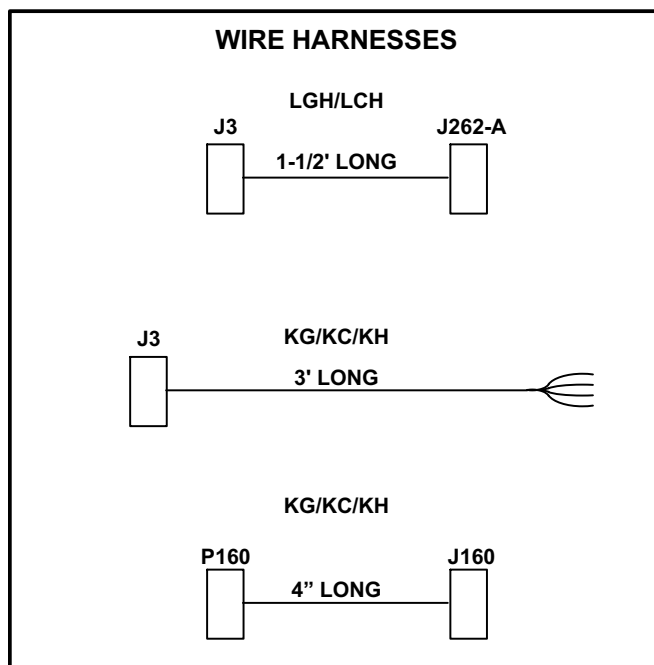
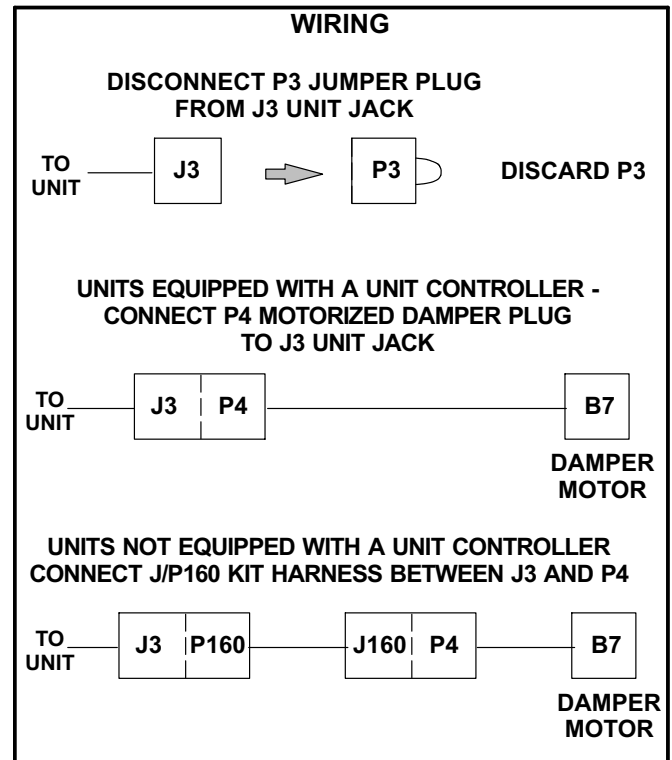

FIGURE 1
FIGURE 6
- 4- Locate the appropriate kit harness. See figure 1.
Locate shortest harness. See figure 1. Connect the kit jumper harness plug P160 to J3 connector (previously installed on left side of control box). Connect other end of kit harness jack J160 to the damper motor plug P4. See figure 6.
Connect damper motor harness plug P4 into the J3 connect (previously installed on left side of control box). See figure 6.